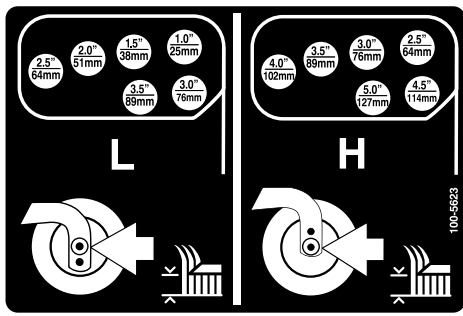

Figure 24
7. Rotate the tension rod to raise or lower the pivot arm until the holes are aligned with the selected height-of-cut bracket holes in the mower-deck frame (Figure 23 and Figure 24).